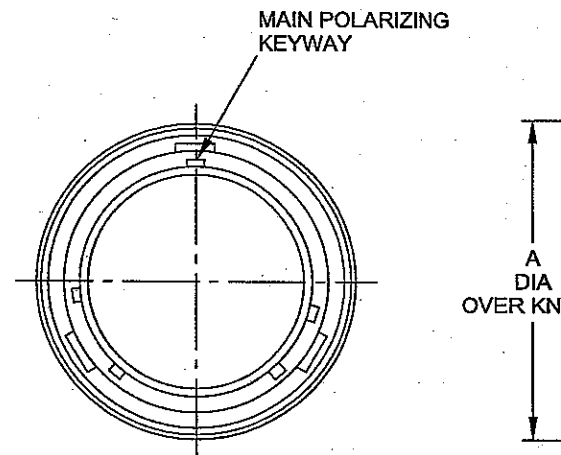

Fig 13 466 Straight plug
11.3 Details of the 466 straight plug are given in Fig 13 and Table 8.